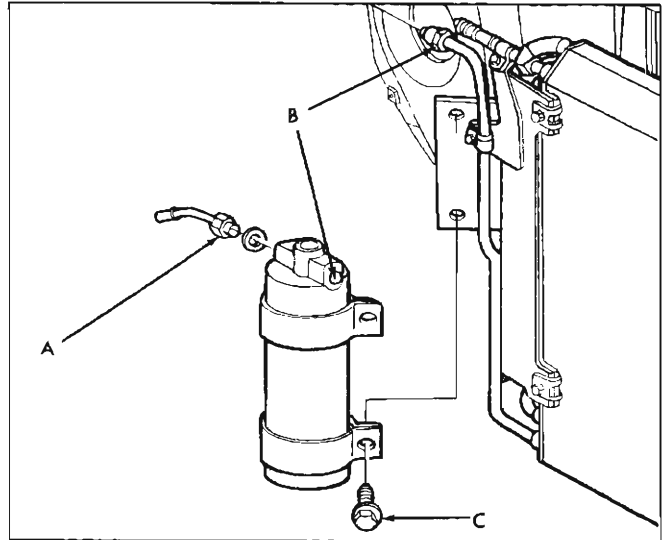

Fig. 9—Receiver-Dehydrator
1. Remove the receiver inlet and outlet connections ("A" and "B," Fig. 9) and the two receiver to condenser attaching screws "C."